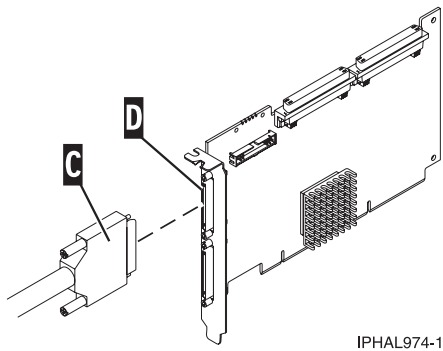

Figure 21. SCSI cable to a SCSI interface card
Connect the other end of the SCSI cable (C) to the SCSI adapter (D) on the server. For more details, see Figure 21.